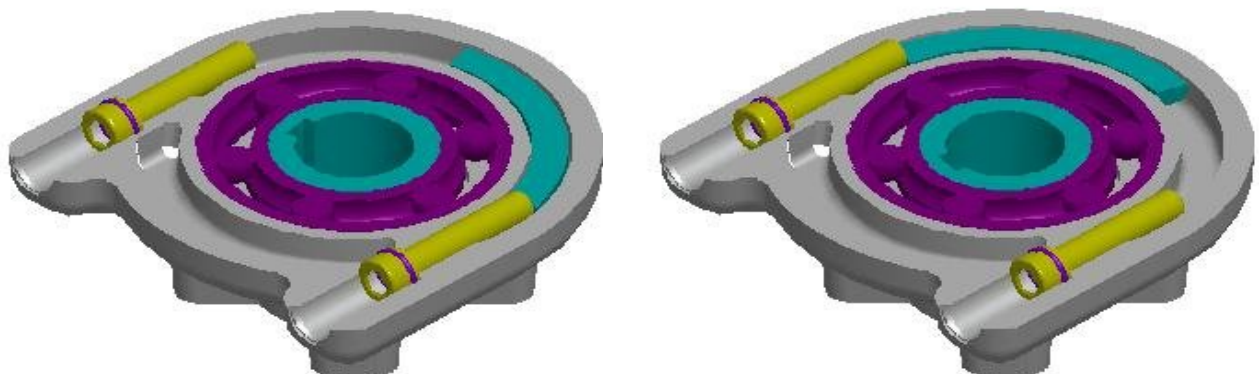

**Fig. 13**
- release both backstop screws in such way that their heads shall be on the same level as the opening edge (Fig.13)
*It is possible to increase (Fig.13) or decrease (Fig.14) the operating angle by 26° on adjusted EA by means of backstop screws, but you are loosing possibility of the output shaft position tuning. In doing so, the positioning unit must be adjusted to this angle and transmitter must be ejected from angle.*